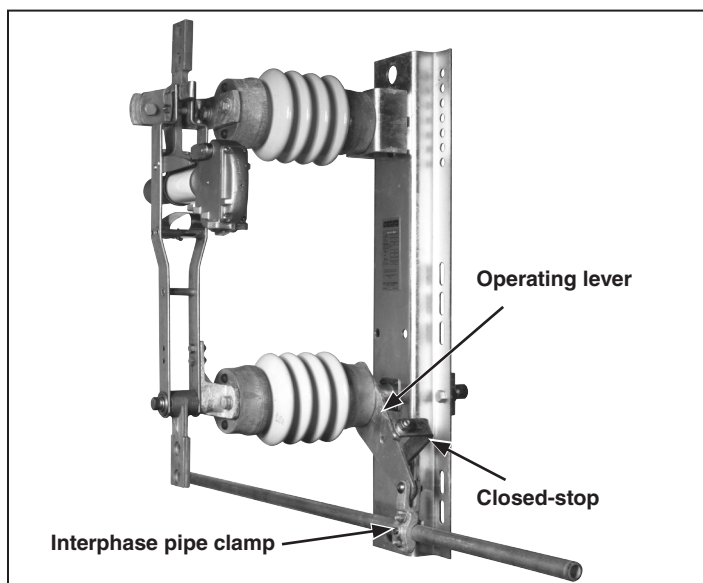

Figure 2. Detail view of the switch pole-unit.
STEP 2. Attach an interphase pipe clamp to each switch-pole operating lever. See Figure 2.